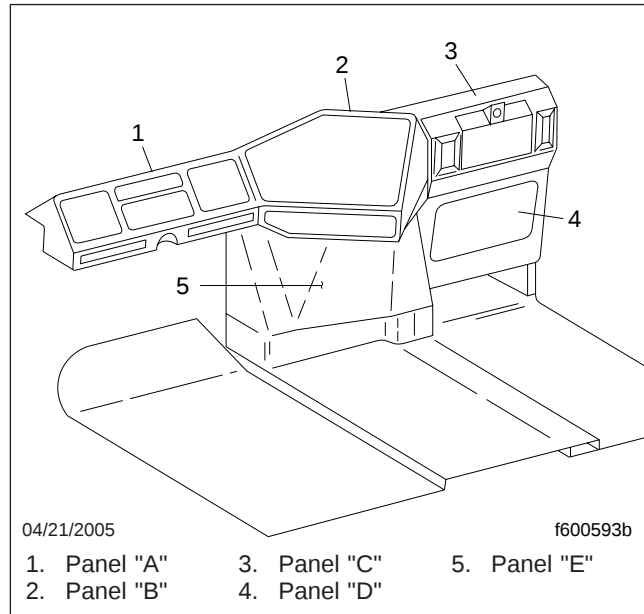

Fig. 2, FLD Dash Panels
5. Remove the cover from the power distribution panel (panel "E"). See Fig. 2.
6. Remove the cover from the dash panel "B" (located above the radio). See Fig. 2.